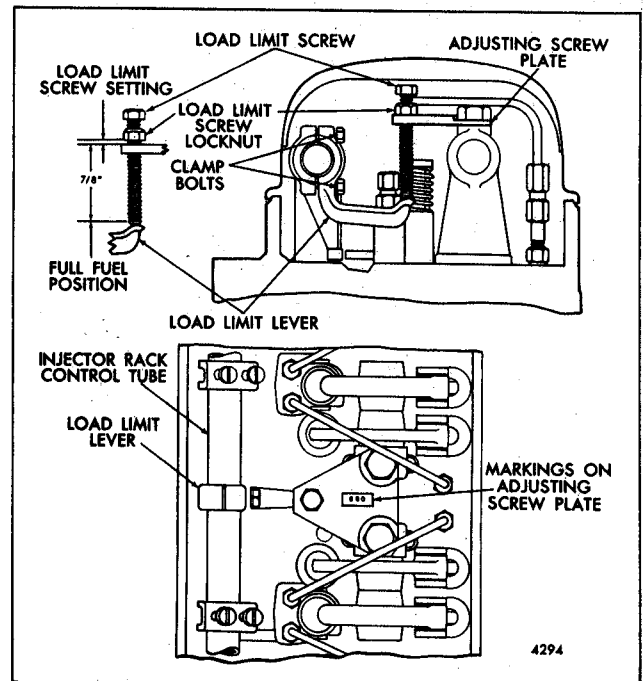

Fig. 1 - Load Limiting Device Mounted on 71 Engine
1. Loosen the load limit screw lock nut (Fig. 1).